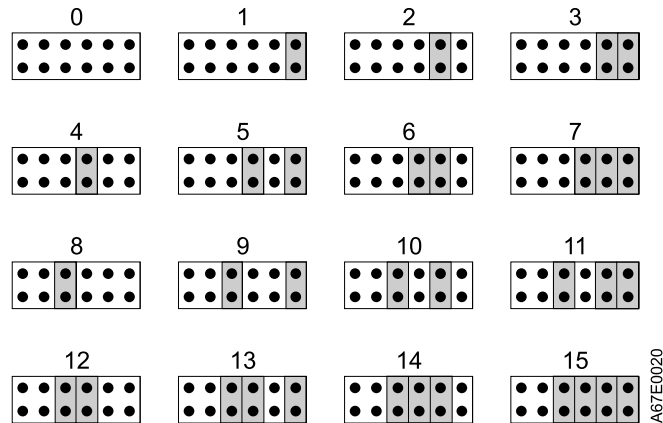

Figure 5. SCSI ID settings on the SCSI ID connector
- ___ 3. Referring to Figure 5 on page 18, find the ID number that you chose then place jumpers on the connector pins as shown (use a pair of needle-nose pliers to connect the jumpers to the pins that are shaded).
If you are installing the Ultrium 2 Tape Drive into a tape library, you can issue a command from the library to set the drive's SCSI ID through the LDI interface. Make sure that the SCSI ID is set to 15 (see Figure 5). When configured to accept its SCSI ID through the LDI interface, the drive does not respond to SCSI commands until it receives a Set Configuration command through the interface.